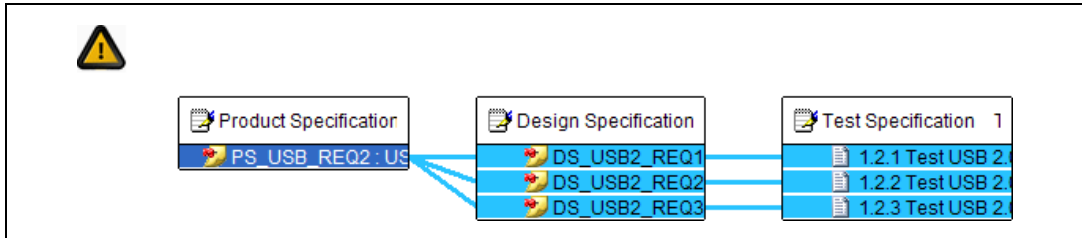

Figure 4-15. PS_USB_REQ2 Selected in Graphical View
4. Right-click in the **Graphical View** and select **View Graph for Selection** from the context menu. When you make this selection, the view only displays the highlighted elements from the three documents, as shown in Figure 4-15.